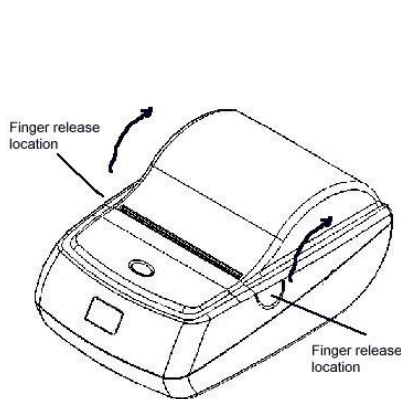

Figure 49
1. Open the printer by applying your fingers to both sides of the lid and pull upwards (Figure 49). Note that the status LED turns amber when the lid is opened.